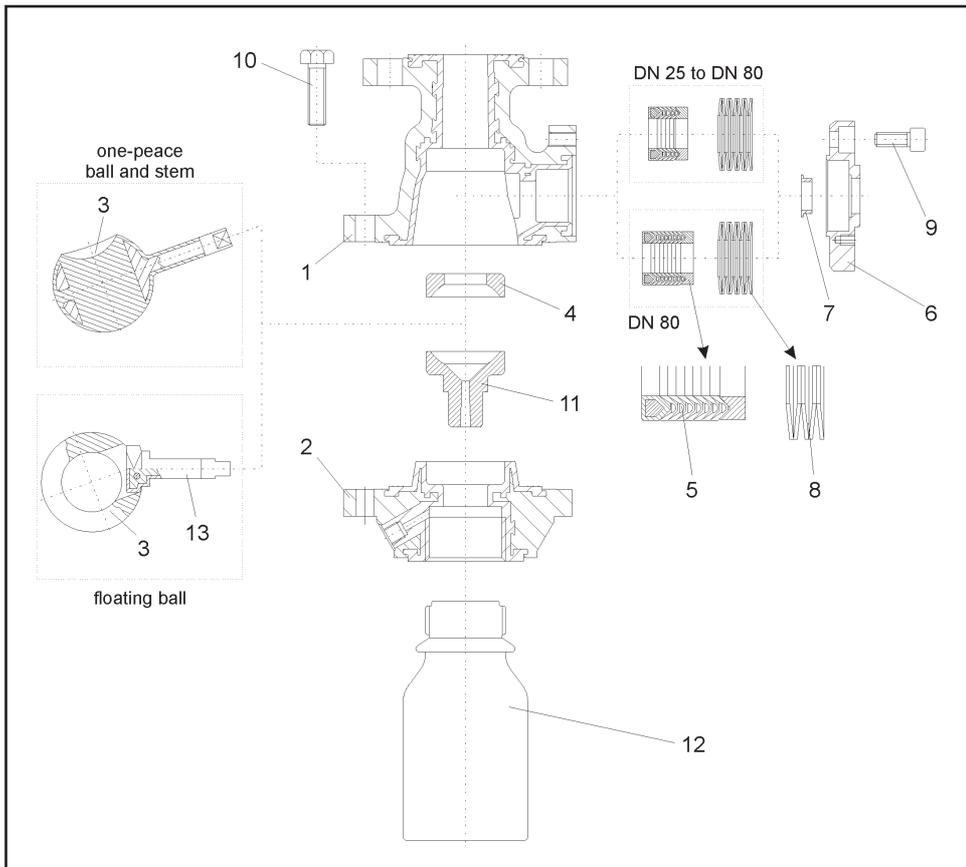

Fig. 3 - Explosions drawing of the sampling valve Series 271
Note: The position and arrangement of the individual parts shown in the explosion drawing (Fig. 3) must be observed when assembling the valve.
The spring washer set (8) is placed on the V-ring packing. For the assembly arrangement of the spring washers, refer to the explosion drawing. (Fig. 3)